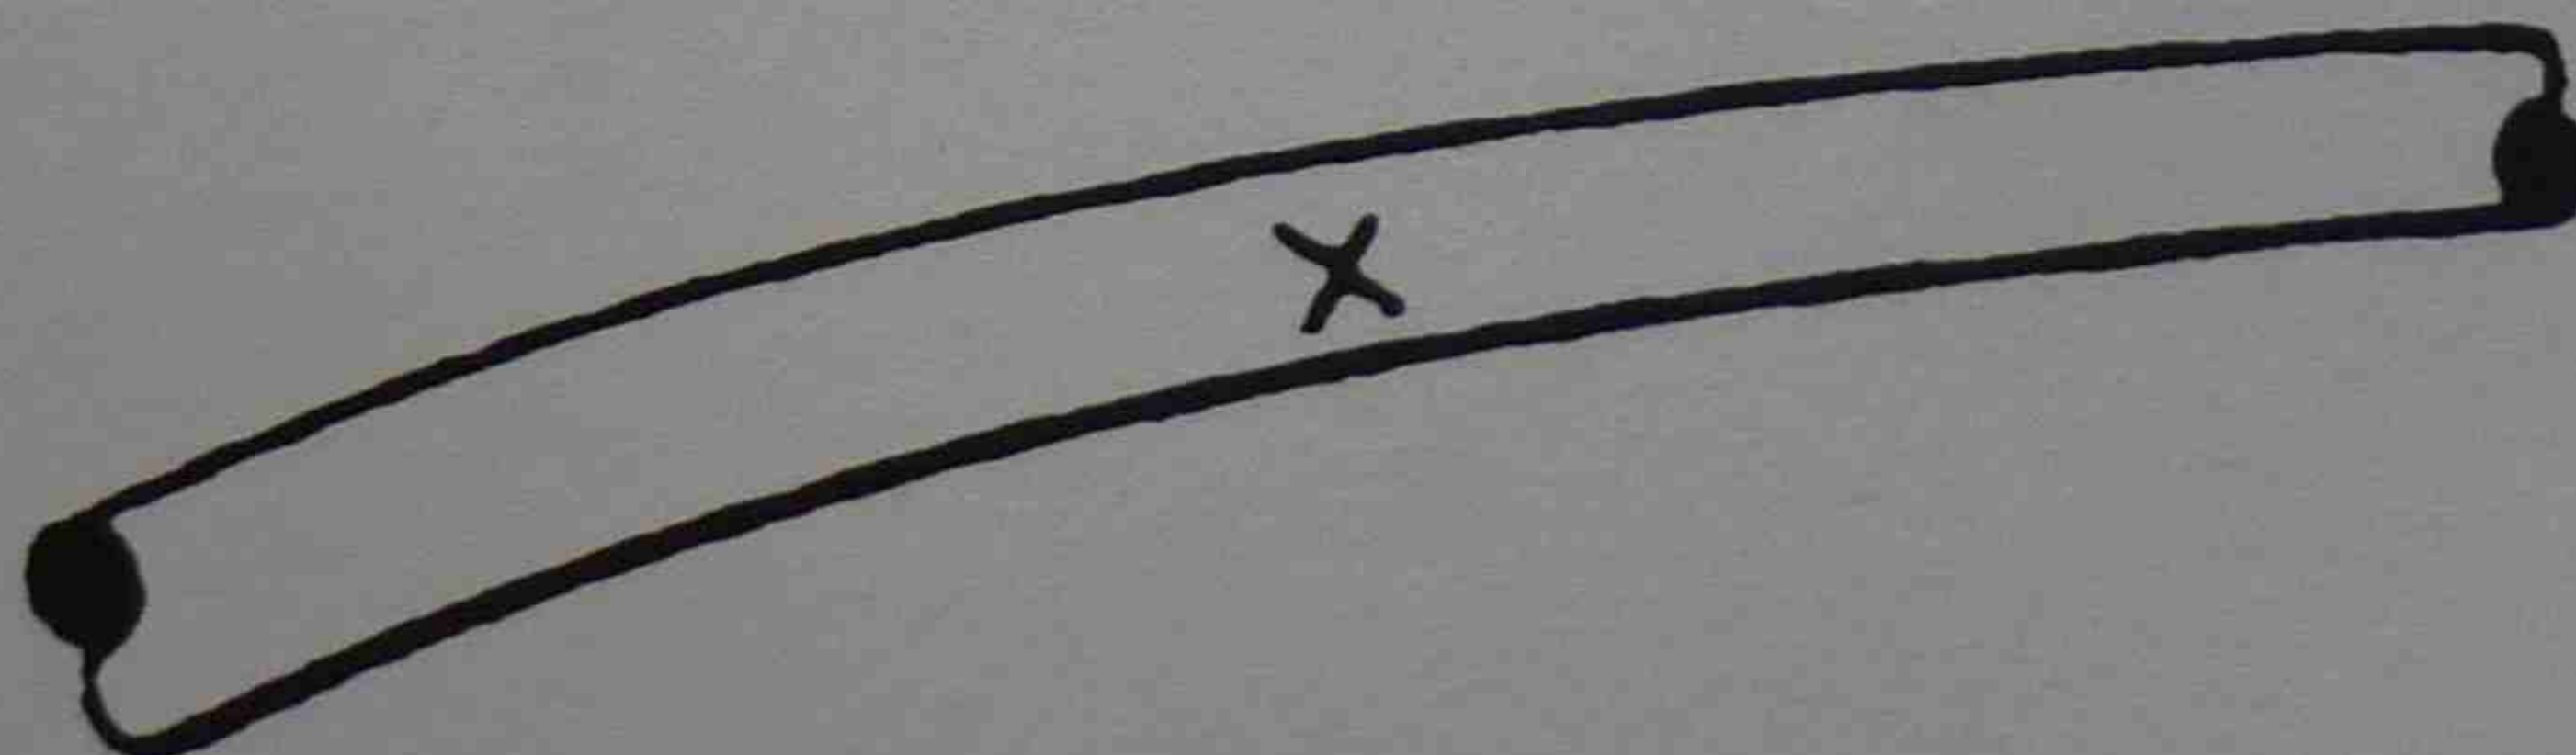

Figure 79 Location of tap
1. Determine the position of the coaxial tap on the backbone cable as marked by the manufacturer (see Figure 79). In the absence of any marks ensure all taps are located at 2.5 metre intervals..